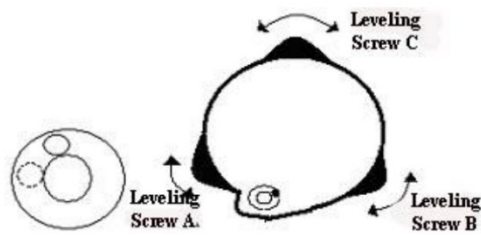

Figure 4-1
a. Turn the leveling screw A and B to move the bubble in the circular vial as below Figure 4-1 shown, in which case the bubble is located on a line perpendicular to a line